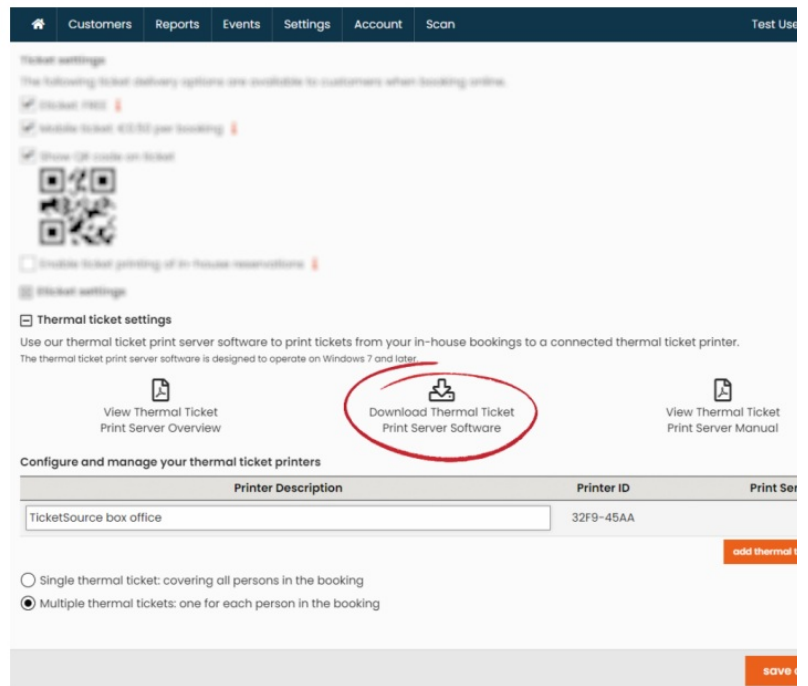

Figure 5: Download Thermal Ticket Print Server Software
- download the TicketSource thermal ticket print server installer by clicking the link “Download Thermal Ticket Print Server Software” (figure 5),